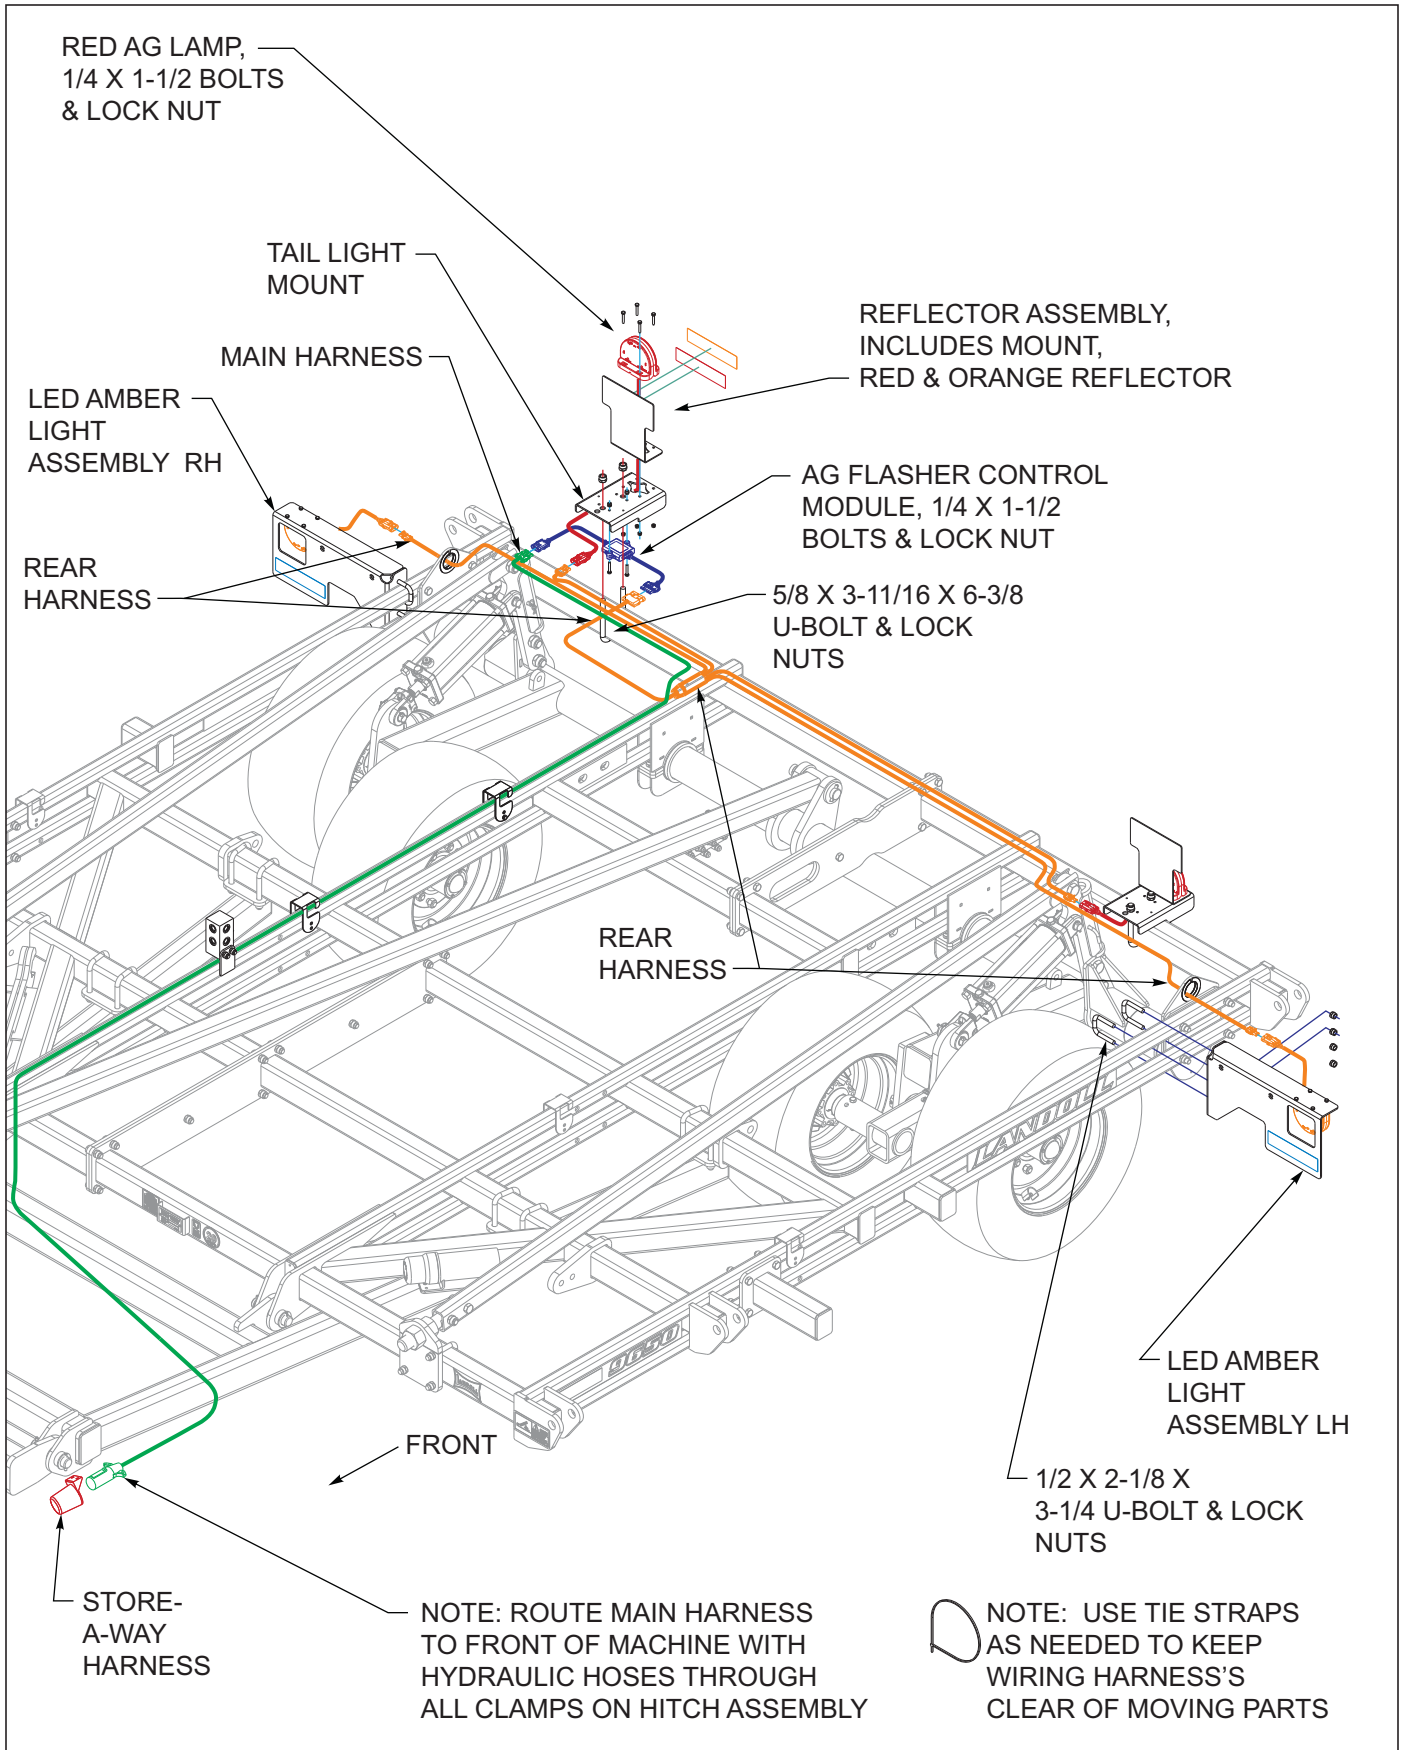
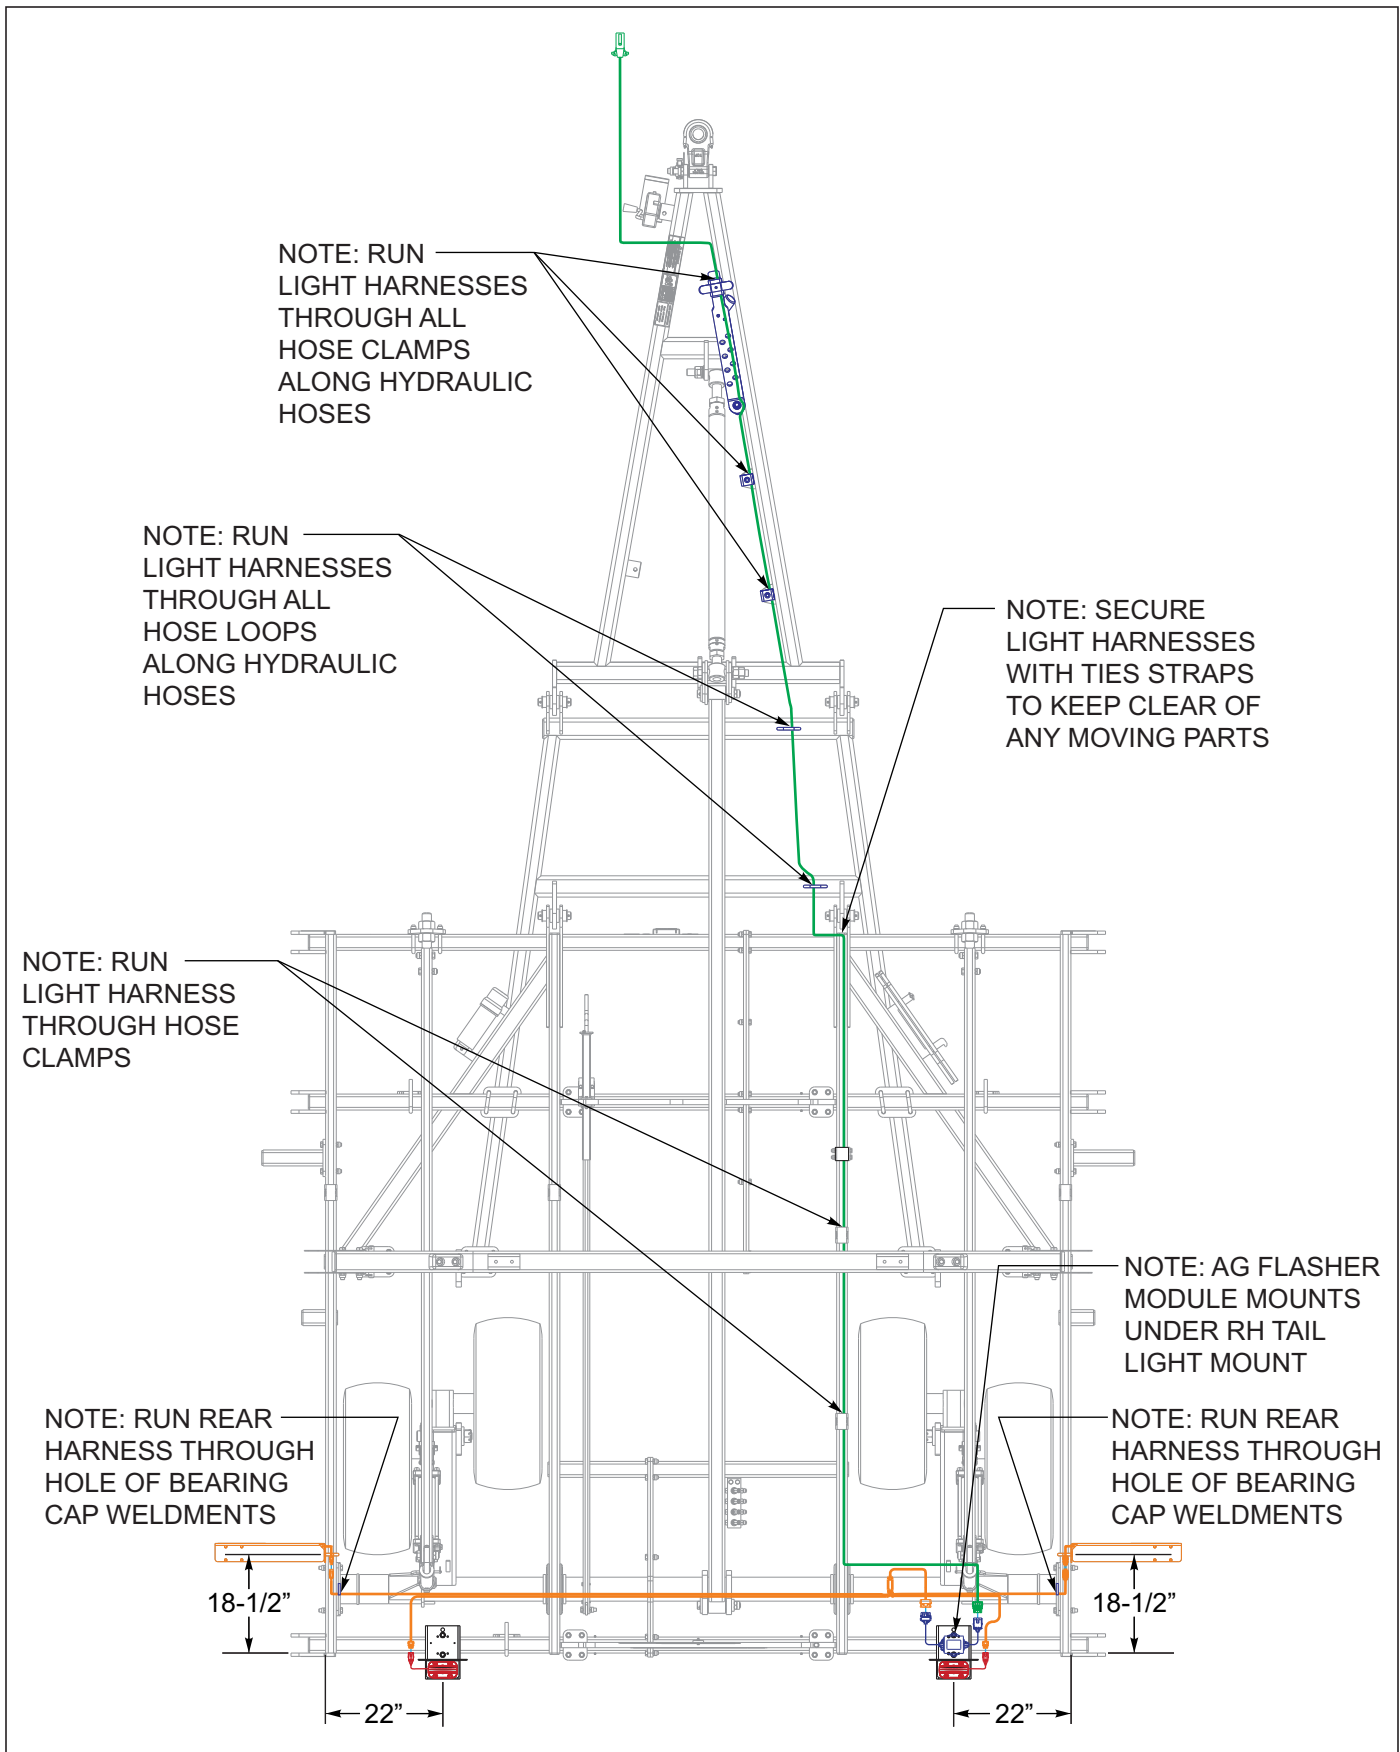

Figure 3-24: LED Light Installation
Figure 3-25: LED Light Placement
1. Attach amber LH and RH light bracket assemblies to center frame using 1/2 x 2-1/8 x 3-1/4 u-bolt and lock nuts *See Figure 3-24* and *See Figure 3-25* for light bracket placement location. The amber reflectors should point forward on both assemblies.
8. Insure that the harnesses are clear of any moving parts and secure the harnesses with tie straps provided. *See Figure 3-25* for light harness routing.